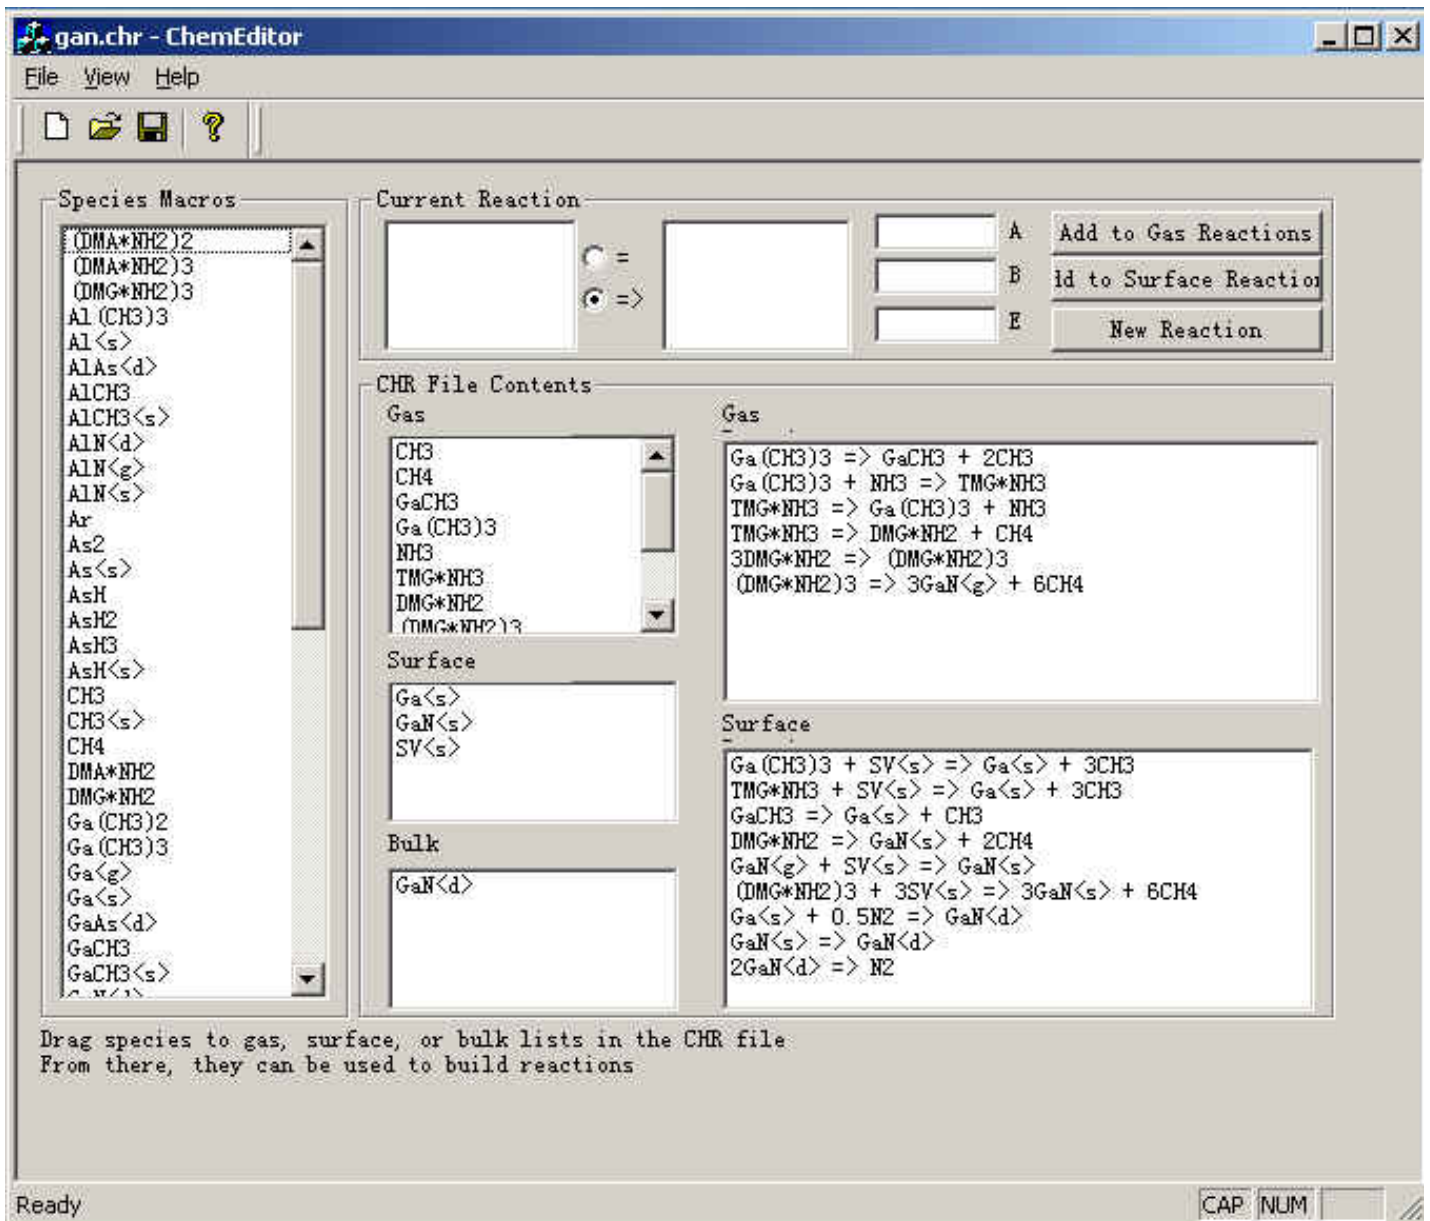

Figure 4: ChemEditor may be used to create and edit complex chemical reactions involved in a reactor simulation.
- 4) An example display of a GUI tool called ChemEditor with a user-accessible chemical species macro library in Figure 4. Large selection of chemical data have been collected in PROCOM.